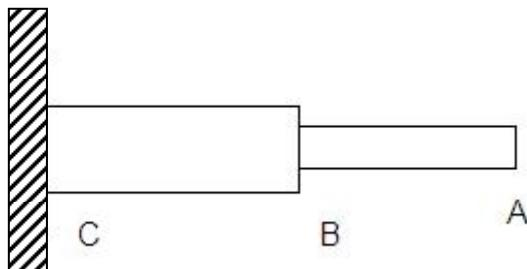

Figure 5
- (b) The 30 mm diameter solid rod BC as shown in Figure 5 is made of aluminum with allowable shearing stress of 25 MPa. The hollow 25 mm outer diameter rod AB is made of brass with allowable shearing stress of 50 MPa. If the factor of safety is same for both aluminum and brass, determine :